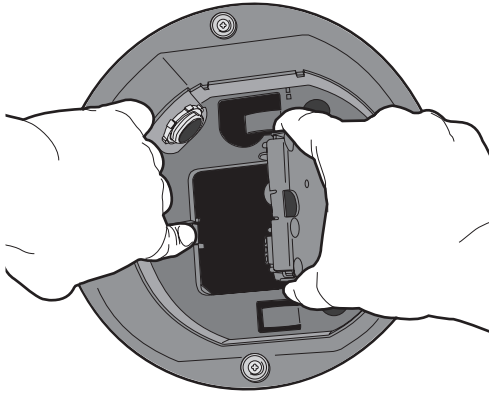
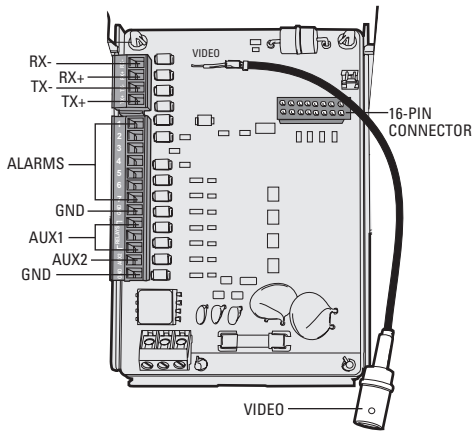

Figure 8. Spectra Dome System, Interconnect Door
Figure 9. Spectra Dome System, Circuit Board
4. Install the TXB-AD board. Refer to Figure 8 and Figure 9 and do the following: